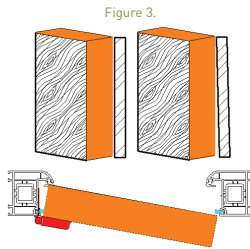

Figure 3.
- It is therefore important that the installation of the door is plumb and square within the aperture, without twist or distortion between the frame and slab [see Fig 3], please check repeatedly during the installation.
- Step 4** Fix the hinge jamb to the wall/side panel. Use a large spirit level to ensure that the jamb is square and plumb. Please note that the lock side must be adjusted to meet the door slab as each slab is bespoke and may vary by a small amount. [see Fig 3]